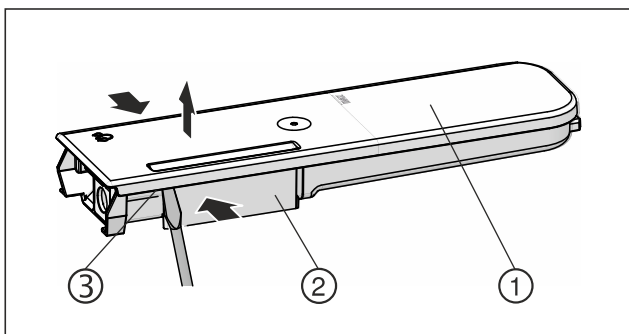

Fig. 153
- ▶ Push the water tanks Fig. 153 (2) together, leverage the cover Fig. 153 (1) carefully over the latching tabs Fig. 153 (3) and lift it up.
- ▶ Move the cover Fig. 153 (1) slightly forwards and back, and remove to the top.